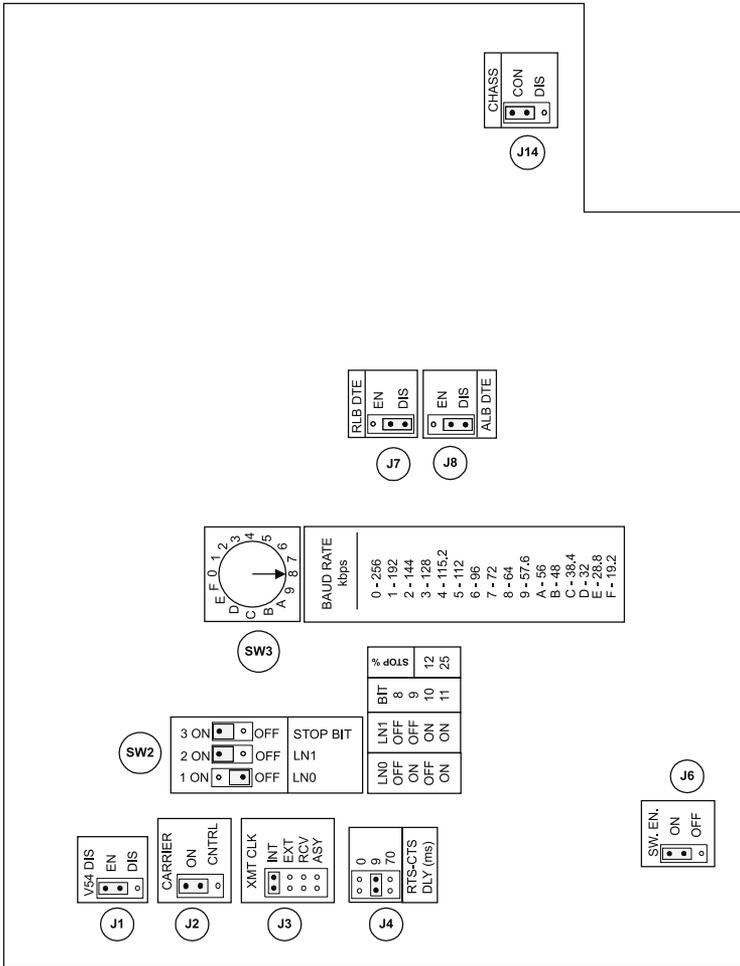

Figure 3-1. Fiber Optic Modem Configuration Diagram.
Before installing the Fiber Optic Modem, set the jumpers/switches according to the intended configuration. The jumper/switch locations are shown on the board layout diagram (see **Figure 3-1** and **Table 3-1**).
1. Identify the switches according to the configuration diagram (**Figure 3-1**).